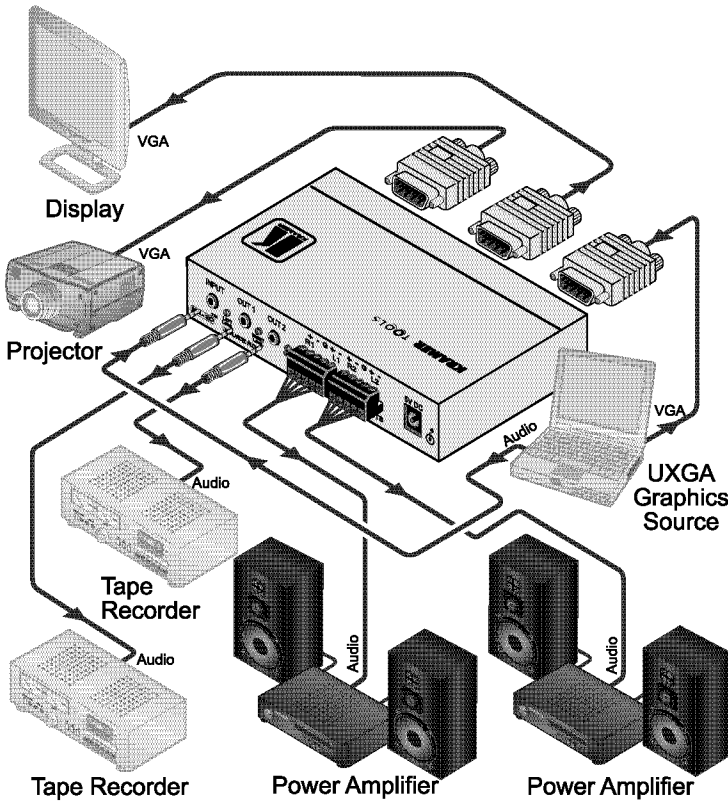

Figure 2: Connecting the VP-200AK 1:2 UXGA / Audio DA
To connect your **VP-200AK 1:2 UXGA / Audio DA**, as the example in *Figure 2* illustrates, do the following¹:
1. Connect a computer graphics source to the 15-pin HD (F) INPUT connector.
2. Connect² the 15-pin HD (F) OUTPUT connectors to up to two acceptors, as follows:
6. Connect the 5V DC power adapter to the power socket and connect the adapter to the mains electricity (not shown in *Figure 2*).